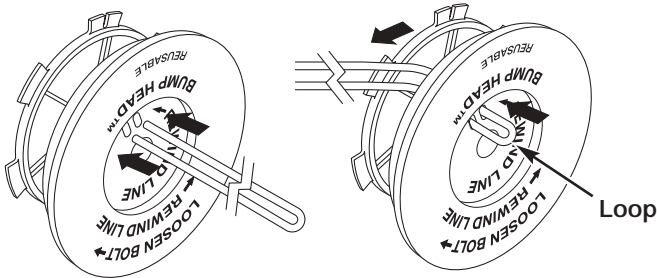

Fig. 31
- Take approximately 40 feet (12.2 m) of new trimming line, loop it into two equal lengths. Insert each end of the line through one of the two holes in the inner reel (Fig. 31). Pull the line through the inner reel so that the loop is as small as possible.